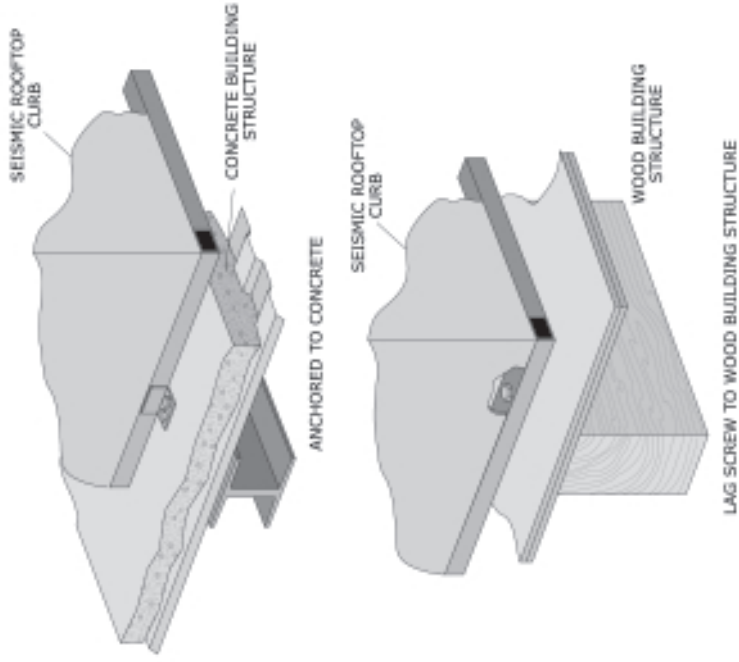

Figure 88: Pre-manufactured curb attached to a roof.
- Directly to the roof, see Figure 88 (page 53).